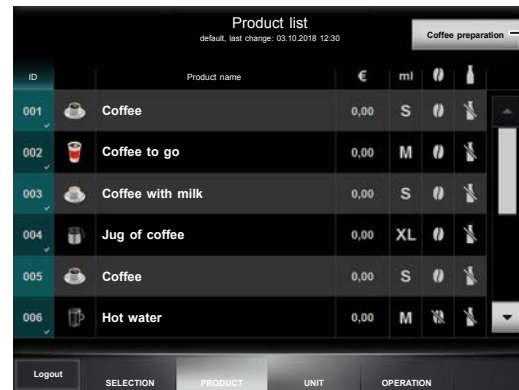

Fig. 28: Product list
1. Press the button “Coffee preparation” (1) (see Fig. 28).